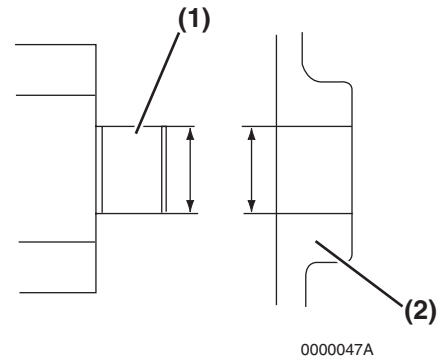

Figure 9-20
Determine the rotor shaft clearance. Measure the outside diameter of the rotor shaft (**Figure 9-20, (1)**) and the bore diameter in the gear case housing (**Figure 9-20, (2)**).